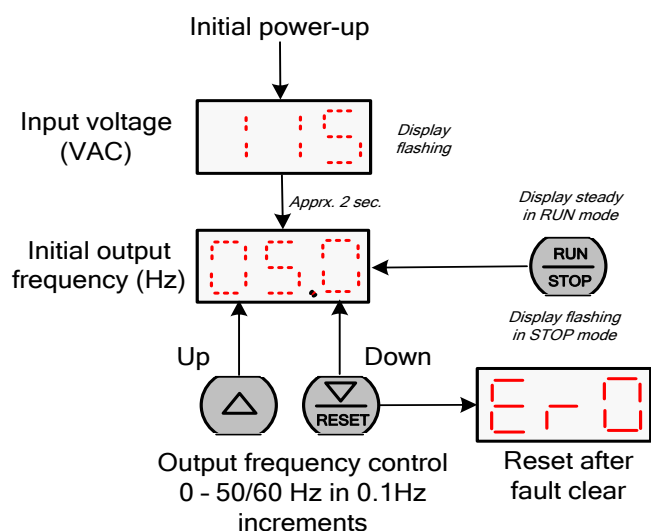

Fig. 9.2.1 Basic Keypad Control
9.2.1 Basic Keypad Control (Factory Default, F04=000 & F05=000) Fig. 9.2.1